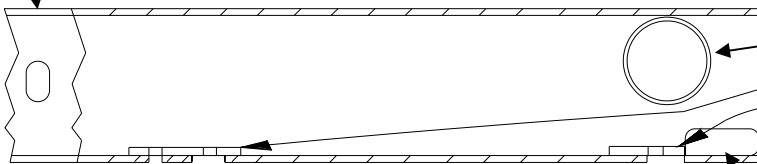
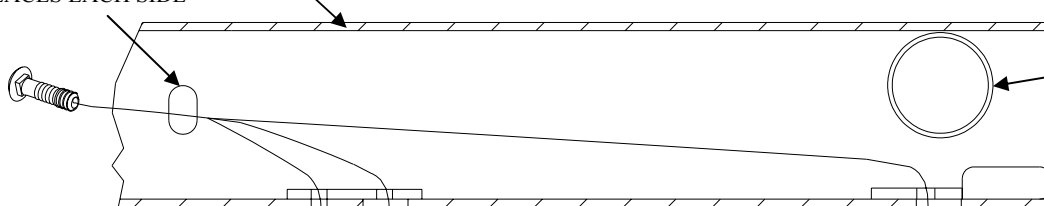

FIGURE 2
FIGURE 3
SEE FIGURE 2
SEE FIGURE 3
4. SLIDE / PUSH 1/4" X 1.50 X 3.50 BLOCKS AND 1/4 X 2.00 X 2.00 BLOCKS THROUGH END OF FRAME BETWEEN FRAME SPACER AND VEHICLE CROSSMEMBER AND ALIGN WITH HOLES IN HITCH SIDE BRACKET (SEE FIGURE 2). FISHWIRE CARRIAGE BOLTS THROUGH SLOT IN FRAME RAIL AND DOWN THROUGH BLOCKS AND SIDE BRACKETS (SEE FIGURE 3 AND 4). SECURE WITH LOCKWASHERS AND NUTS.